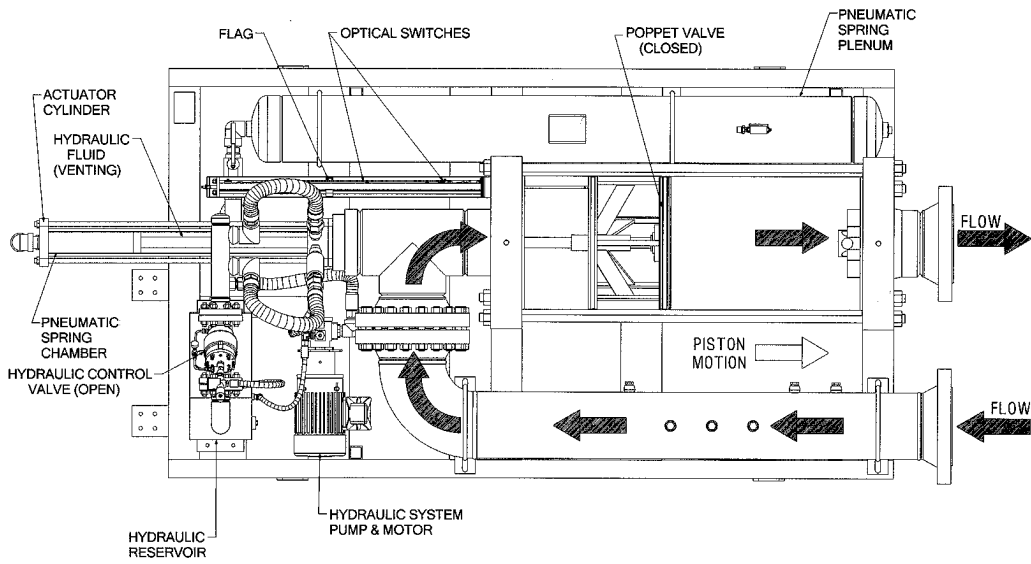

Figure 3-2 Initial Motion
2. The hydraulic control valve opens and releases the hydraulic pressure. Pressure from the pneumatic spring plenum, on the upstream side of the actuator piston, closes the poppet valve and the piston begins moving downstream at the process fluid flow rate (Figure 3-2).